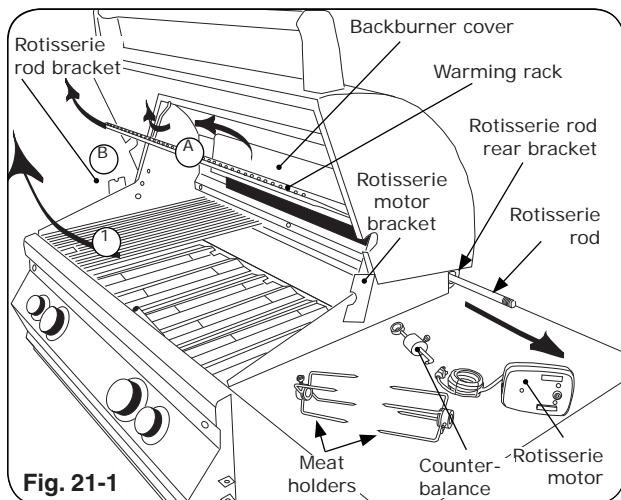
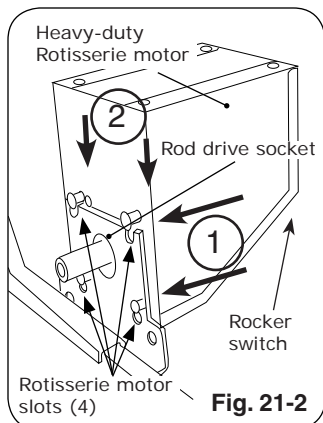
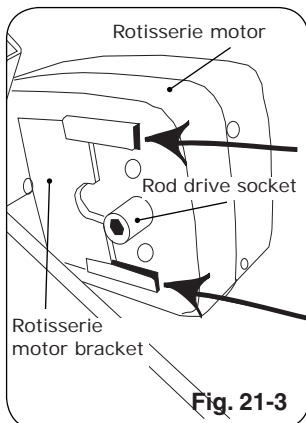

Fig. 21-1
Fig. 21-2
Fig. 21-3
2. Slide rotisserie motor fully onto motor bracket (right side, Fig. 21-2 or Fig. 21-3, and Fig. 21-1).
3. Remove rotisserie rod from rear bracket (Fig. 21-1).